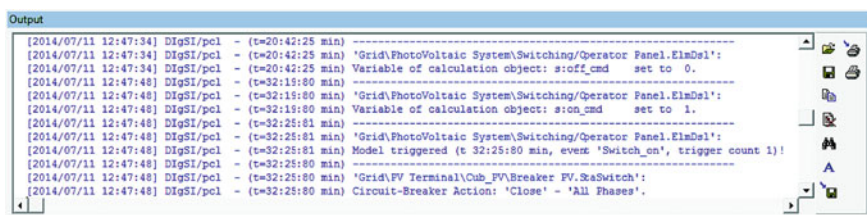
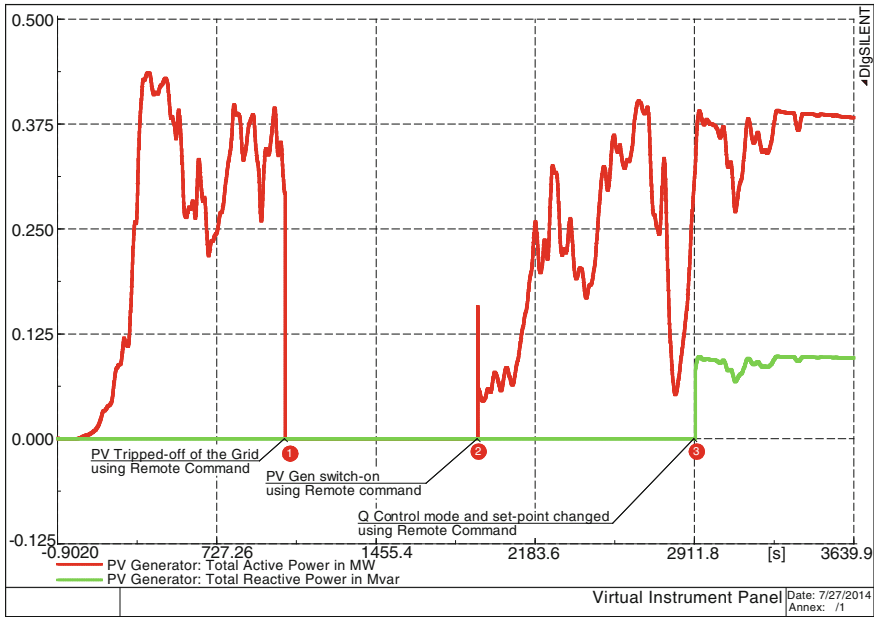

Fig. 16.19 PowerFactory output showing switching-on sequence
Fig. 16.21 Plots showing P and Q produced by the PV plant in the demonstration system
4. Switch to “*Virtual Instrument Panel*” in the graphic board to observe the P and Q production plot against time in the x-axis as shown in Fig. 16.21.
4. Also check that both P and Q output go to zero (see marker ❶ in Fig. 16.21).
7. Observe the following messages in the output window (see Fig. 16.19) and change in P and Q output of the PV generator (see marker 2 in Fig. 16.21).
- P and Q dispatch in the virtual instrument panel also reflects the change in Q mode and Q set point as shown under marker  in Fig. 16.21.